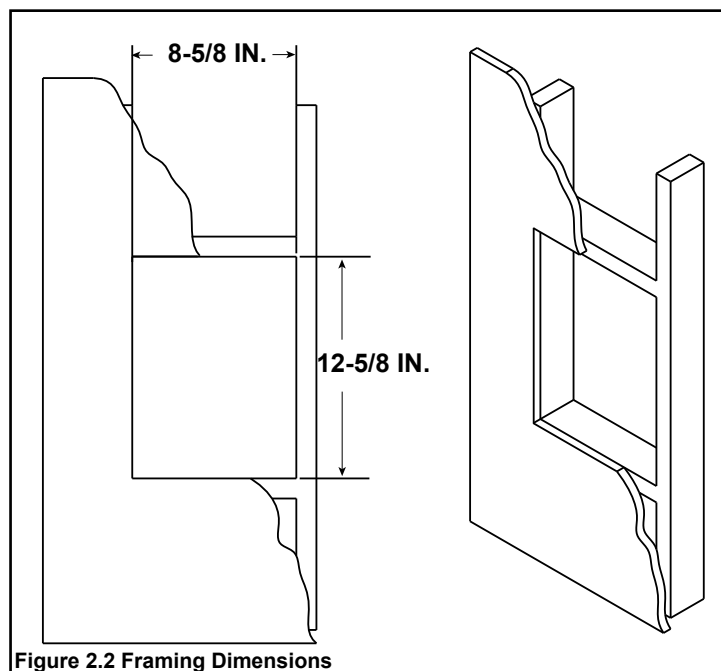

Figure 2.2 Framing Dimensions
1. Construct a framework as shown in Figure 2.2. Framework material should be the same dimensions as the material used for the wall framing. The dimensions of the box must be 12-5/8 inches high by 8-5/8 inches wide.